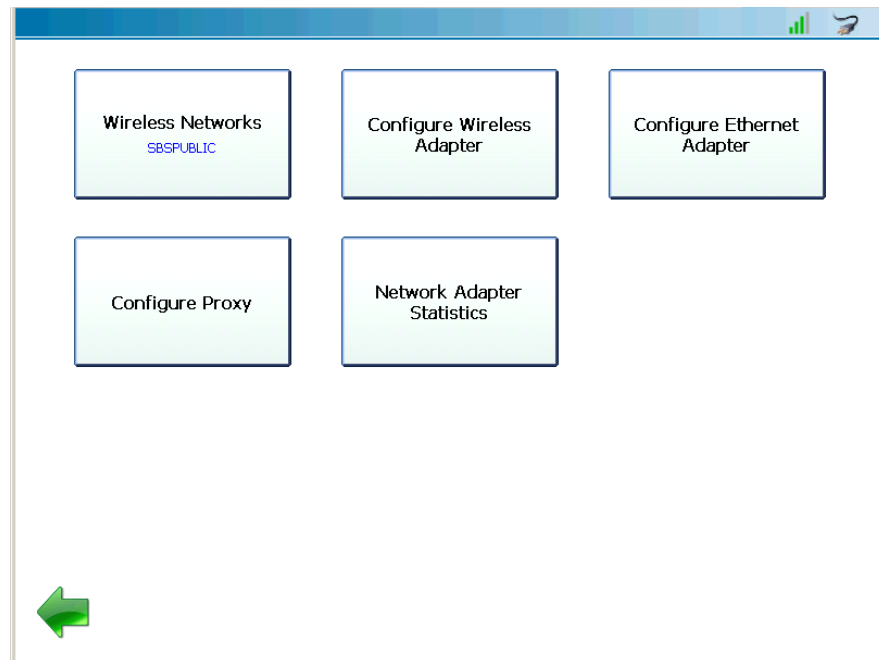

Figure 5.22 *Manage Networks Menu*
- 1 Select **Wireless Networks** from the Manage Networks menu (Figure 5.22).
The network to which you are currently connected is indicated (i.e., Connected). Touch the green **Back Arrow** to go back to the Manage Networks Menu (Figure 5.22).
- 1 Select **Configure Wireless Adapter** from the Manage Networks menu (Figure 5.22).